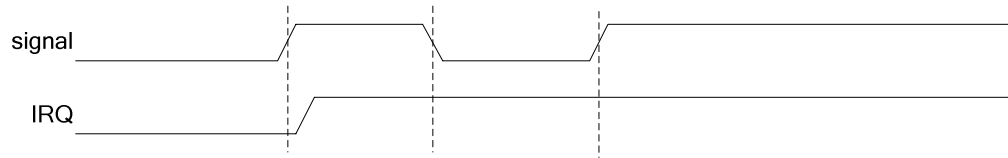
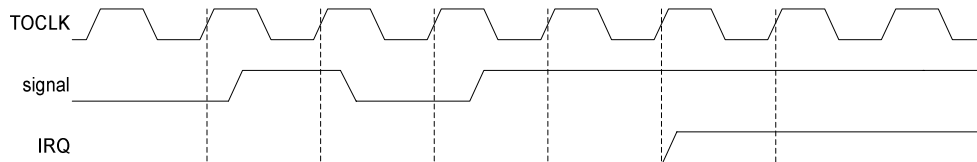
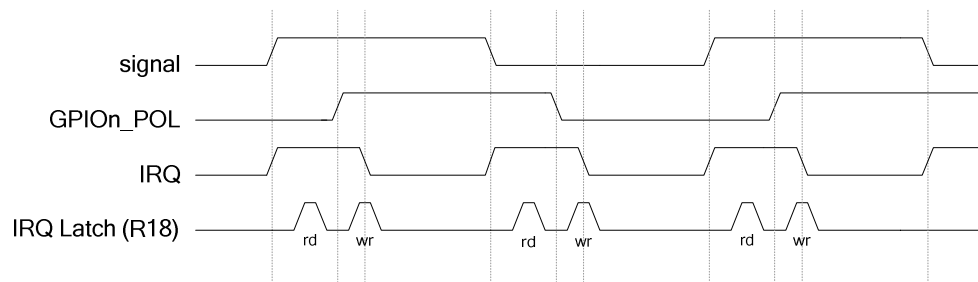

Figure 47 GPIO Latch
Figure 48 GPIO De-bounce
Figure 49 GPIO Edge Detect
Three typical scenarios are presented in the following Figure 47, Figure 48 and Figure 49. The examples are:
- Latch a GPIO input (Figure 47)
- Debounce and latch a GPIO input (Figure 48)
- Use the GPIOn\_POL bit to implement an IRQ edge detect function (Figure 49)